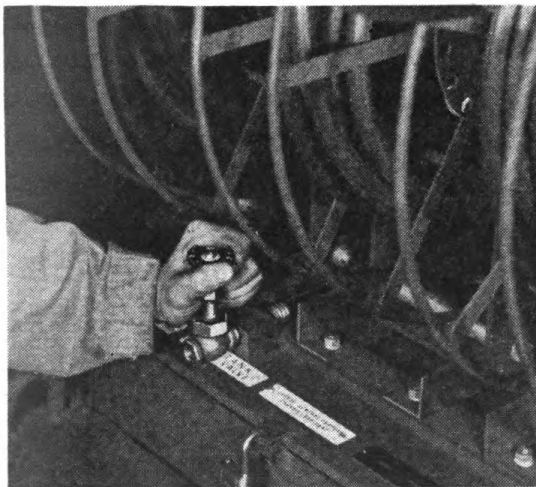

Figure 43
b. Drain moisture from receiver weekly by opening valve (See Figure 43) at rear of unit. Allow valve to remain open until air is dry and all moisture has drained.
6. Drain moisture from air receiver by opening drain valve (See Figure 43).